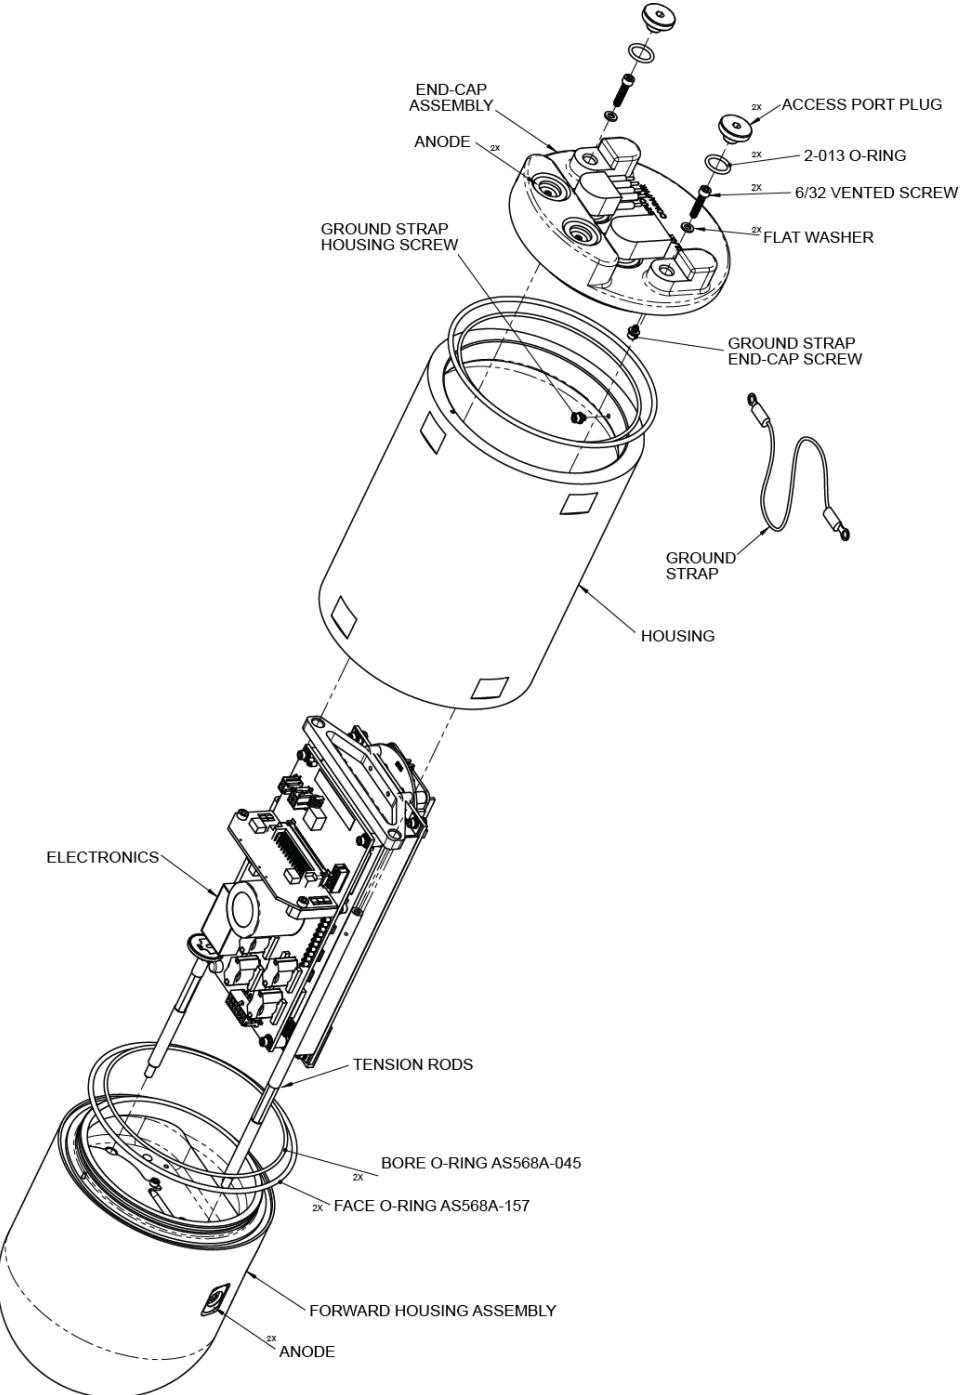

Figure 20. Self-Contained ExplorerDVL Assembly
8. Examine the vented screws and washers for corrosion; replace if necessary. Figure 20 shows the assembly order of the end-cap/housing mounting hardware. All the hardware items are needed to seal the ExplorerDVL properly.